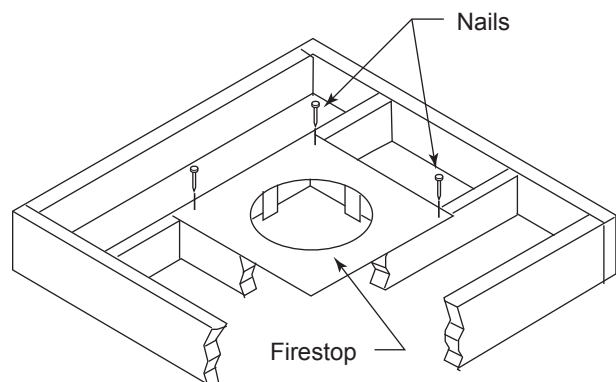
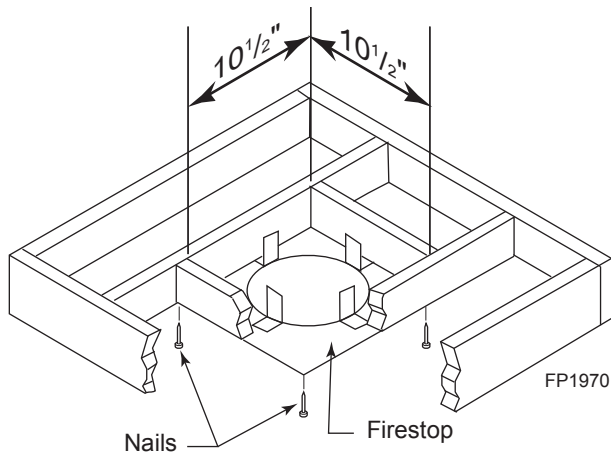

**Figure 24 - If Area Above is a Room, Install Firestop
**Figure 25 - If Area Above is Not a Room, Install Firestop above Framed Hole as Shown**
1. Cut a 101/2" (241 mm) square hole in the ceiling using the locating hole as a center point. The opening should be framed to 101/2"x101/2" (241 x 241 mm) inside dimensions as shown in Figure 25 using framing lumber the same size as the ceiling joist. If the area above the ceiling is an insulated ceiling or a room, nail firestop from the top side. This prevents loose insulation from falling into the required clearance space. Figure 24. Otherwise, install firestop below the framed hole. Figure 25